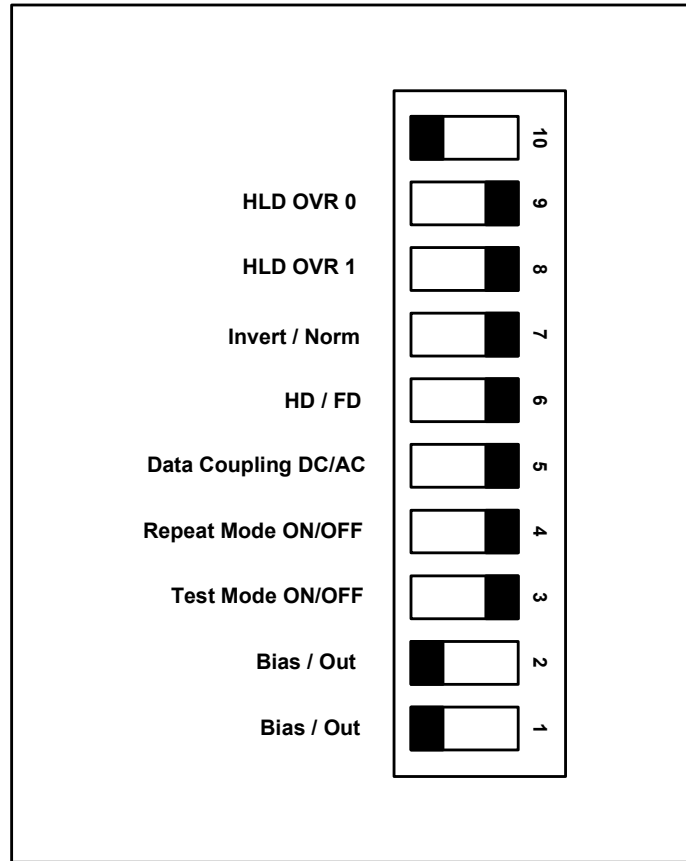

FIGURE 5. Switch Settings (Factory Defaults)
7. Verify operation using the diagnostic LEDs. (See Figure 5).